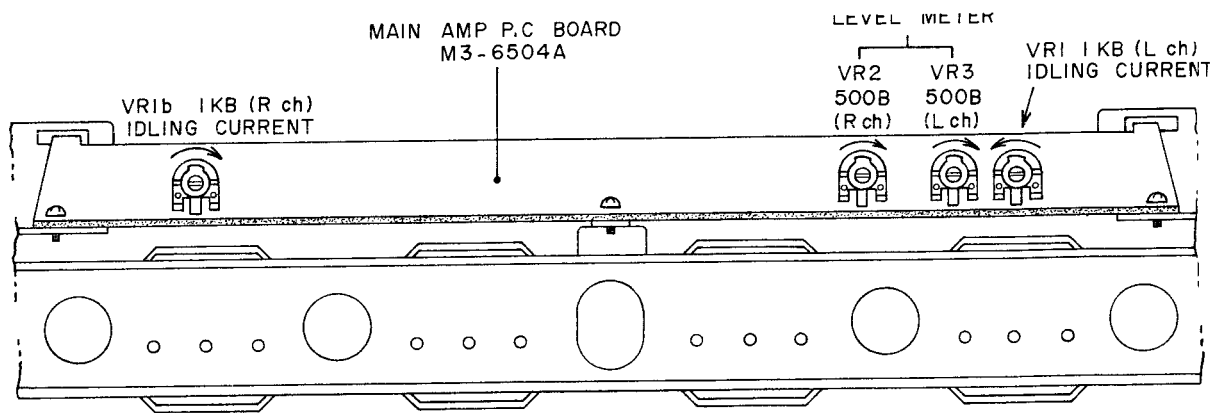

Fig. 27 Adjustment Points
2. LEVEL METER INDICATION ADJUSTMENT (Refer to Figs. 27, 28)